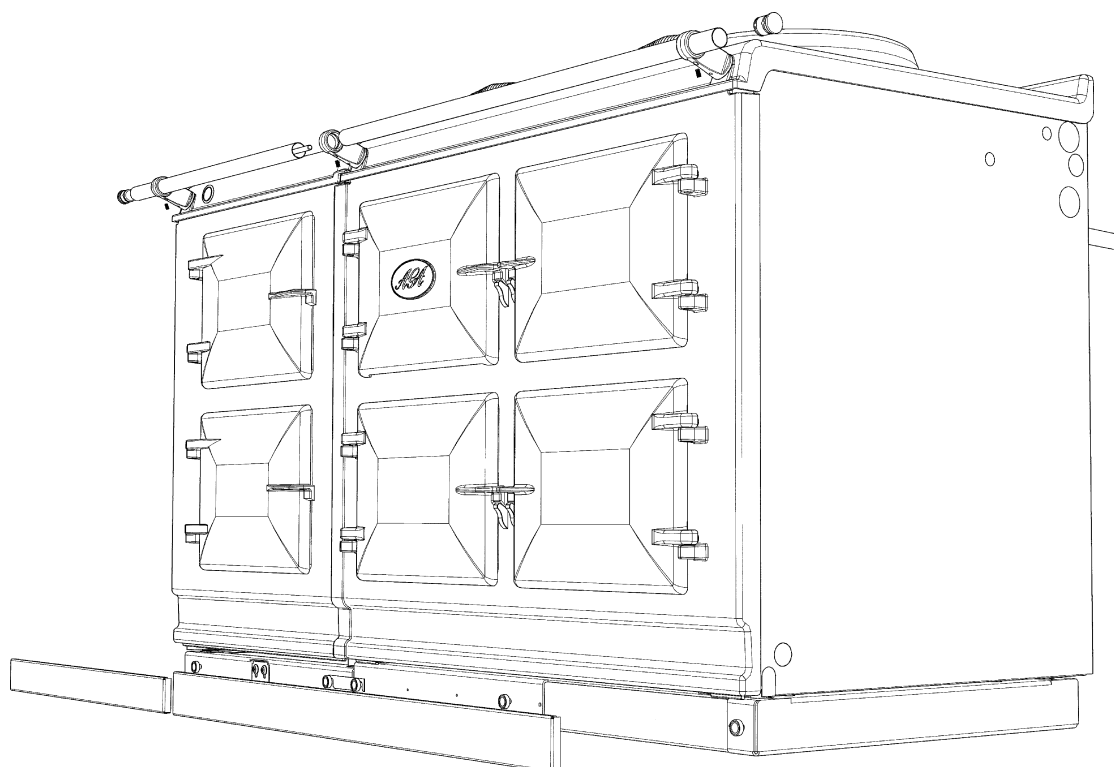

Fig. 30.12
11. On 5 oven appliances, fit 'allthread' stud into the threaded end of the handrail, then feed the handrail through the bracket (ensuring that the allthread stud is protruding from the right hand side of the hotcupboard handrail) and screw the handrails together. (Fig. 30.12).
(Fig. 30.12)